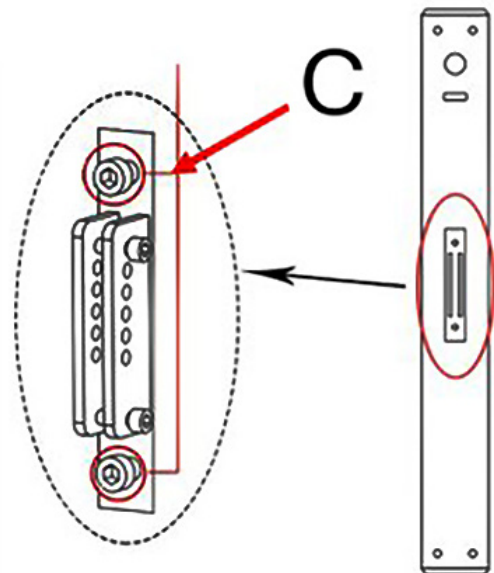

Figure 4
- a. Assemble the smaller speaker bracket components (position C in Figure 4) onto the two mounting holes on the back of the column array speaker. The M6 screws are pre-assembled into the speaker inserts.